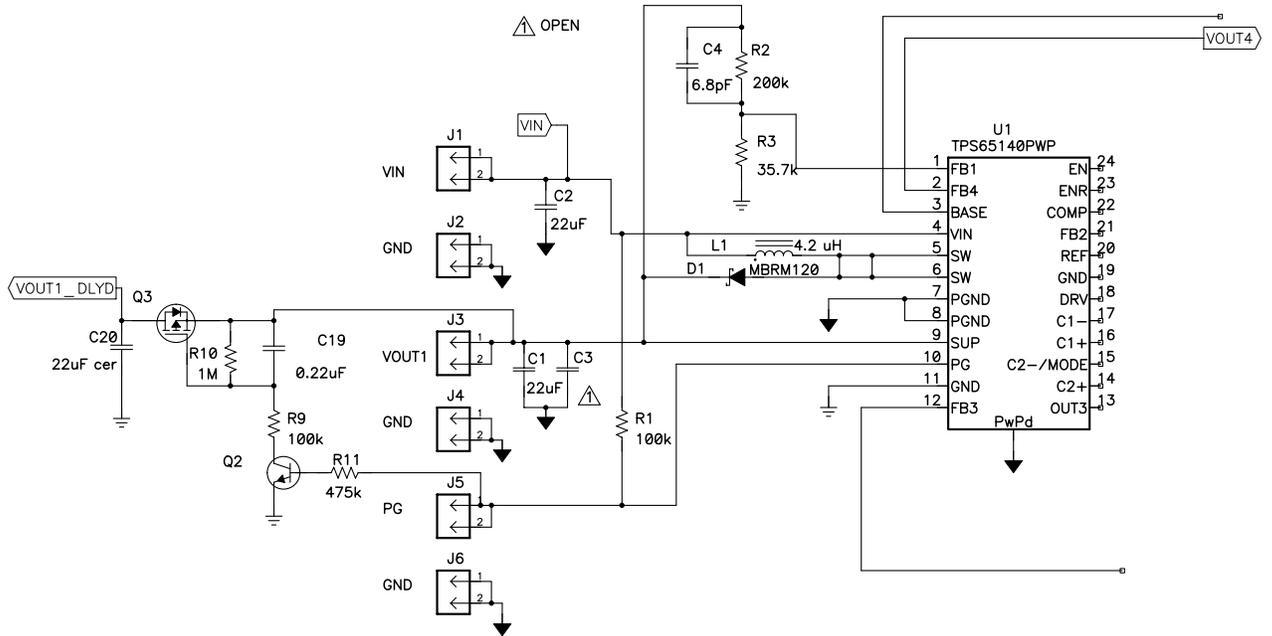
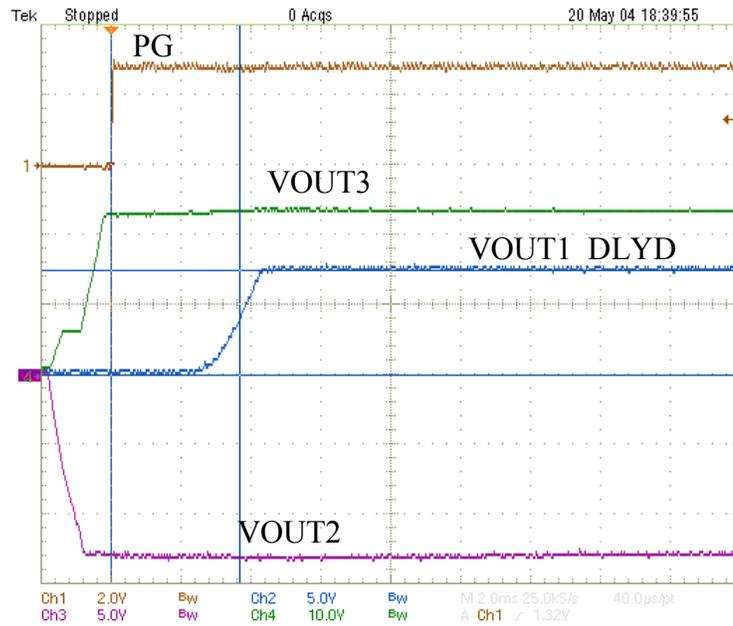

Figure 4. Example Delay Circuit
Figure 5. Modified Start-Up Using Delay Circuit
Pulling EN high on the TPS6510x and TPS6514x starts the internal power-up sequencing with the main boost converter coming up first, followed by the negative positive charge pump, and the positive charge pump. Adding the circuit in Figure 4 to V_{OUT1} of Figure 5, not only changes the order of the sequencing but also provides an adjustable sequencing delay. In addition, because the MOSFET Q3 is driven by the power-good signal, this circuit provides short circuit protection and input-to-output disconnect for the V_{OUT1} rail. When all of the output rails of the TPS65140 are within regulation, the power-good signal (PG), pulled high to $V_{IN} = 3.3\text{ V}$ through a 100-k Ω resistor, goes high and turns on Q2. This starts the RC delay circuit that eventually turns on Q3. The voltage divider formed by resistors R9 and R10 is configured so that Q3 turns on (but not with enough voltage to exceed Q3's maximum source to gate voltage rating). Recommended components include FDN360P or SI2343 for Q3 and MMBT3904 for Q2. The turnon delay for Q3 is implemented by C25 and R9. R10 is used to hold the gate of Q3 off during device shutdown. Equation 3 shows the approximate delay before Q3 turns on.
In this example, using $|V_{TH}| = 0.95\text{ V}$, $t_{dly} = 3\text{ ms}$. Figure 5 shows the circuit in practice.